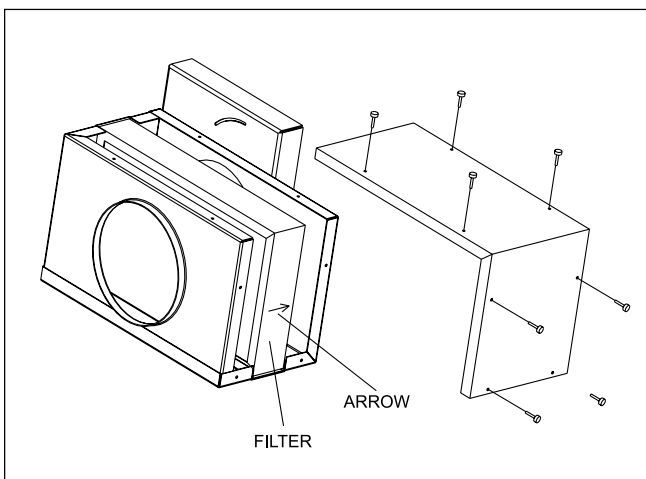

Figure 19. Filter Exposed for Cleaning.
A filter has been designed into the operation of this Mighty Max boiler. Its function is to filter the combustion air before it is delivered to the burner system. The filter is manufactured out of a polyurethane foam and may be cleaned with a mild soap and water solution. Clean the filter only after the filter has been removed from the filter housing (see Figure 19).
3. Remove the screws on the filter housing to expose the filter as shown in Figure 19.